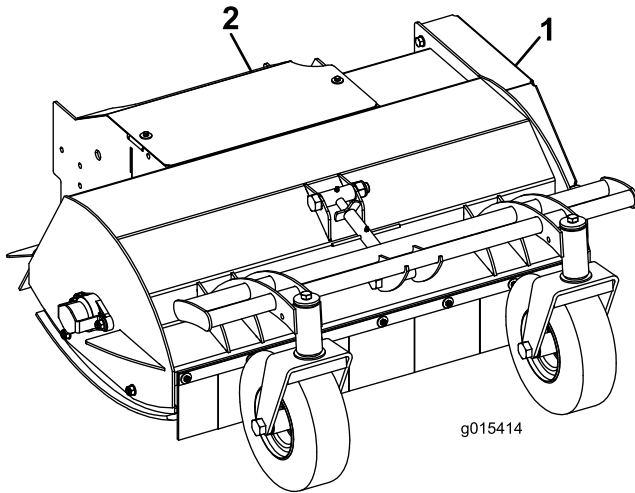

Figure 6
1. Remove the top guard (Figure 6).
5. Install the top guard (Figure 6).